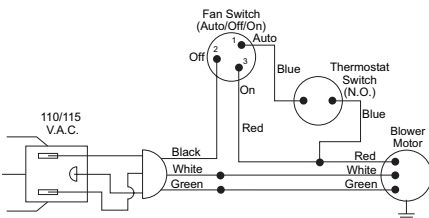

Figure 18 - Wiring Diagram For Blower Accessory Built-In Installation
4. A licensed electrician must follow the wiring diagram to connect incoming electrical supply to fan kit wiring harness (see Figure 18).